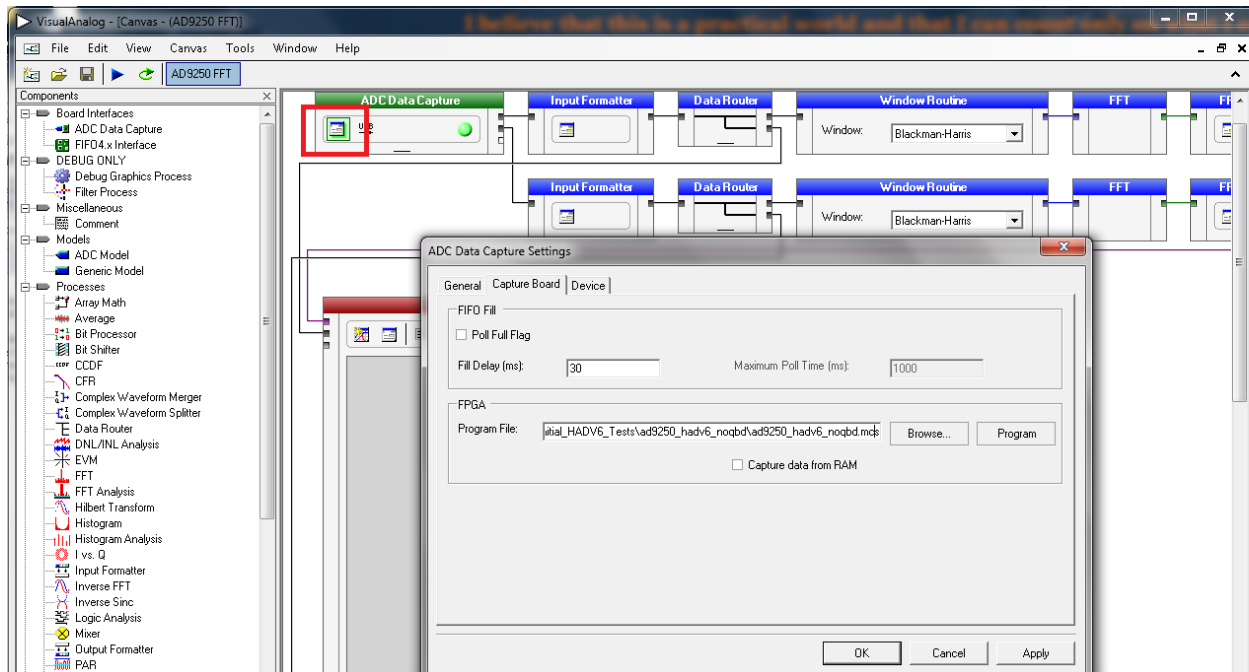

Figure 3. VisualAnalog, ADC Data Capture Settings Window
10. Select the **ADC Data Capture Settings** window and click the **Capture Board** tab (see the red box in Figure 3).